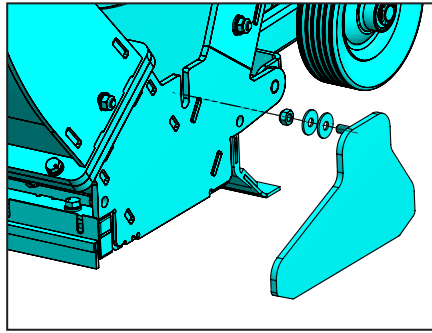

FIG. 26B
2. Attach the edge blasting plate (Figures 26B and 26C).